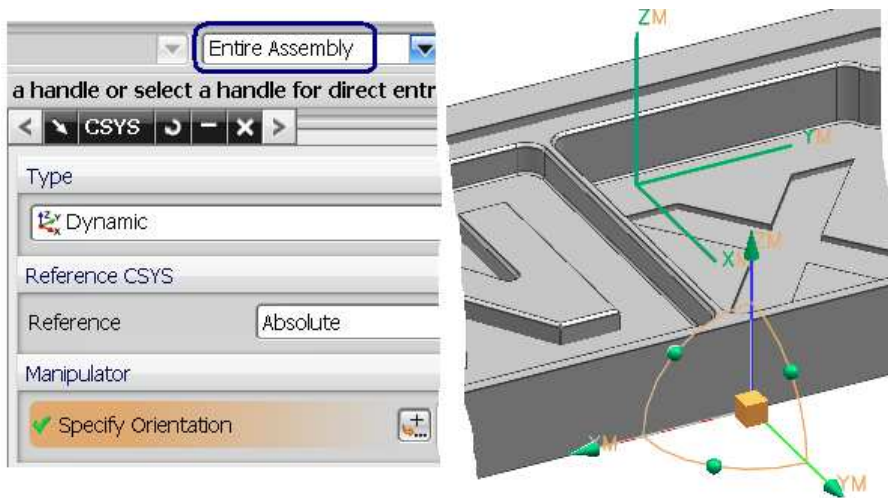

Figure 8.4 Editing of the MCS position
11. Dynamically move the **MCS** to a randomly chosen place — e.g. downward from the upper part and additionally change the direction of the X or Y axis — figure 8.4.